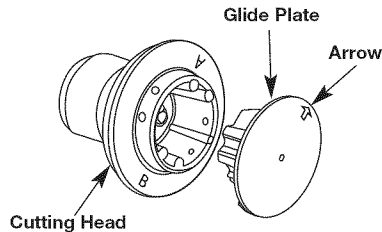

Fig. 15
3. Reinstall line glide plate (Fig. 15). Align arrow with: